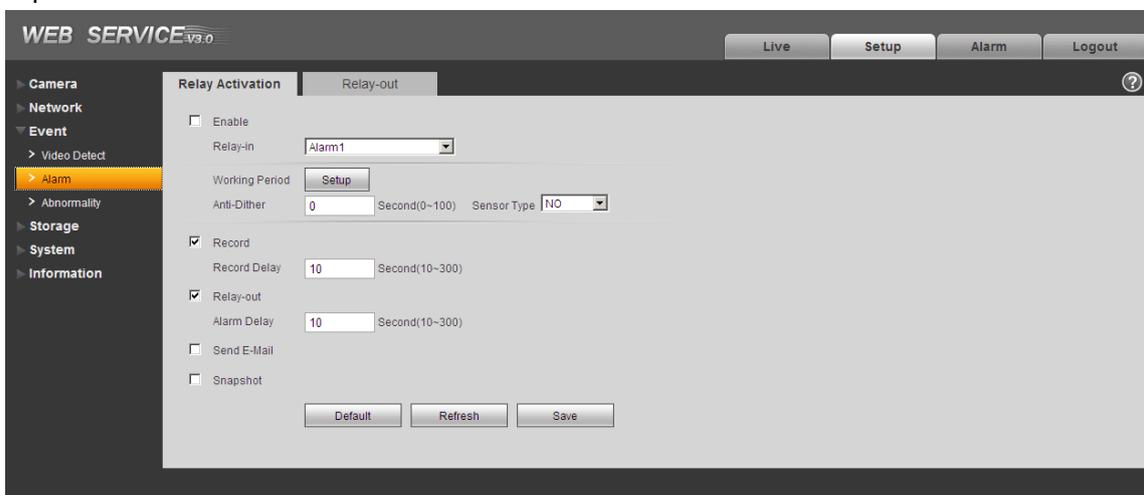

Figure 2-5
The alarm interface is shown as in Figure 2-5. Please follow the steps listed below for local alarm input and output connection.
- 3) Open the Web, go to the Figure 2-5. Please set the alarm input 01 port for the first channel of the I/O cable (No.3 pin). The alarm input 02 is for the 2nd channel of I/O cable (No.4 pin). Then you can select the corresponding type (NO/NC.)